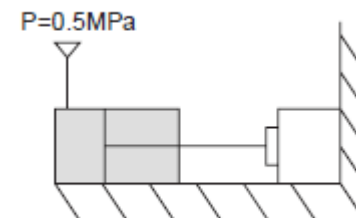

Fig. 1
- ❑ **Example 1:** If a minimum force of 1000 N would be needed to keep the working piece as in Fig. 1, as it corresponds to the extending movement, use Graph 1 with a load factor of 0.7 and a working pressure of 0.5 MPa to obtain the piston diameter. **Solution:** 63 mm.